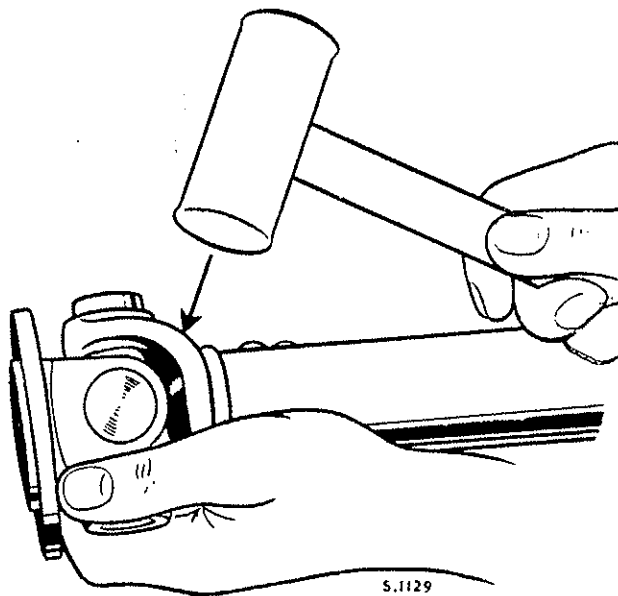

Fig. D.7. Removing the bearing cage by lightly tapping the yoke radius
3. Support the propeller shaft and lightly tap the radius of the yoke ear with a copper hammer as shown in Fig. D.7.